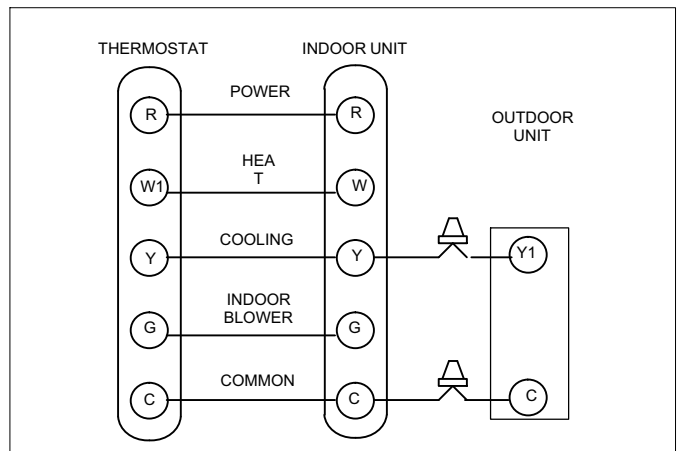

Figure 14. Typical Field Low Voltage Wiring
Refer to the indoor unit installation instruction for additional wiring application diagrams and refer to unit nameplate for minimum circuit ampacity and maximum overcurrent protection size. Figures 14 and 15 illustrate typical outdoor unit wiring diagrams for the TSA*S4 series heat pumps.
5. Install low voltage wiring from outdoor to indoor unit and from thermostat to indoor unit as illustrated in figures 14 and 15.